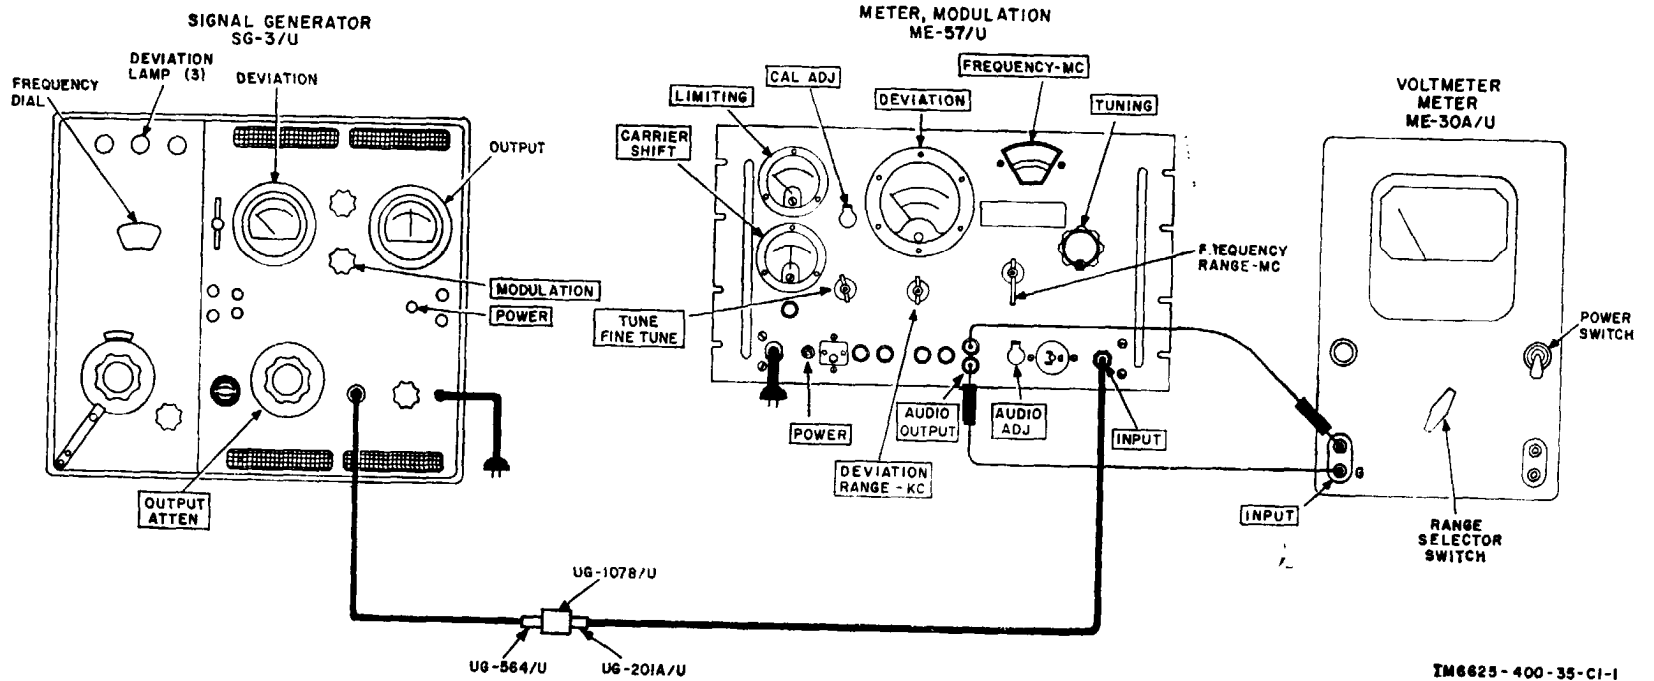

Figure 28.1. Sensitivity test.
Page 42. Add paragraph 36.1 and figure 28.1 after paragraph 36.
- a. Set up the equipment as shown in figure 28.1.
- (1) FREQUENCY RANGE MC switch to 20-55.
- (2) DEVIATION RANGE KC switch to 1000-TUNE.
- (3) TUNE-FINE TUNE switch to TUNE.